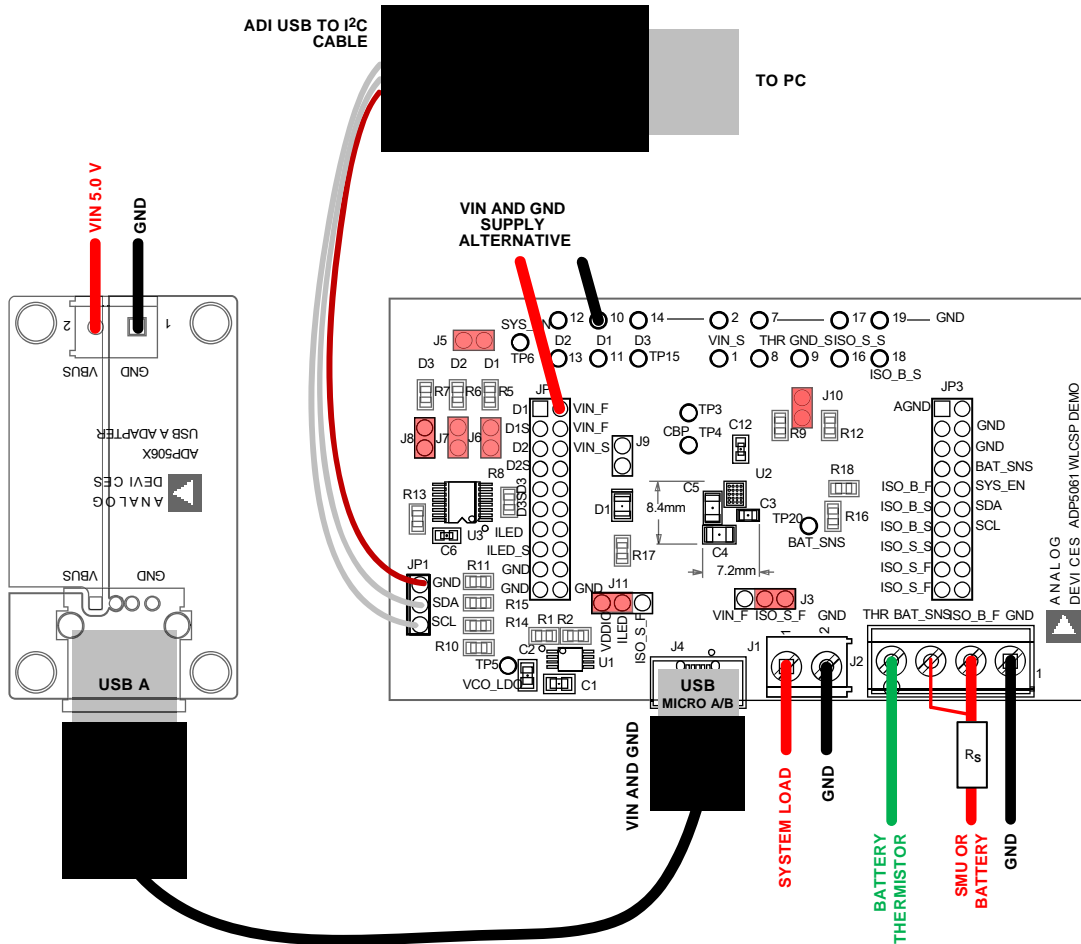

Figure 5. ADP5061 WLCSPP Demo Board Typical Operation Setup.
2. Connect a 5 V power supply to VIN_F using the USB Micro A-to-USB Micro B connector or alternatively connect the power supply between the VIN_F test point and GND (see Figure 5).
The ADP5061 fast charge constant voltage (CV) regulation is optimized for batteries with series resistance in the 100 mΩ to 250 mΩ range. When using a SMU or a battery simulator connected to the ISO_Bx, set the series resistance (R_s in Figure 5) within this range.